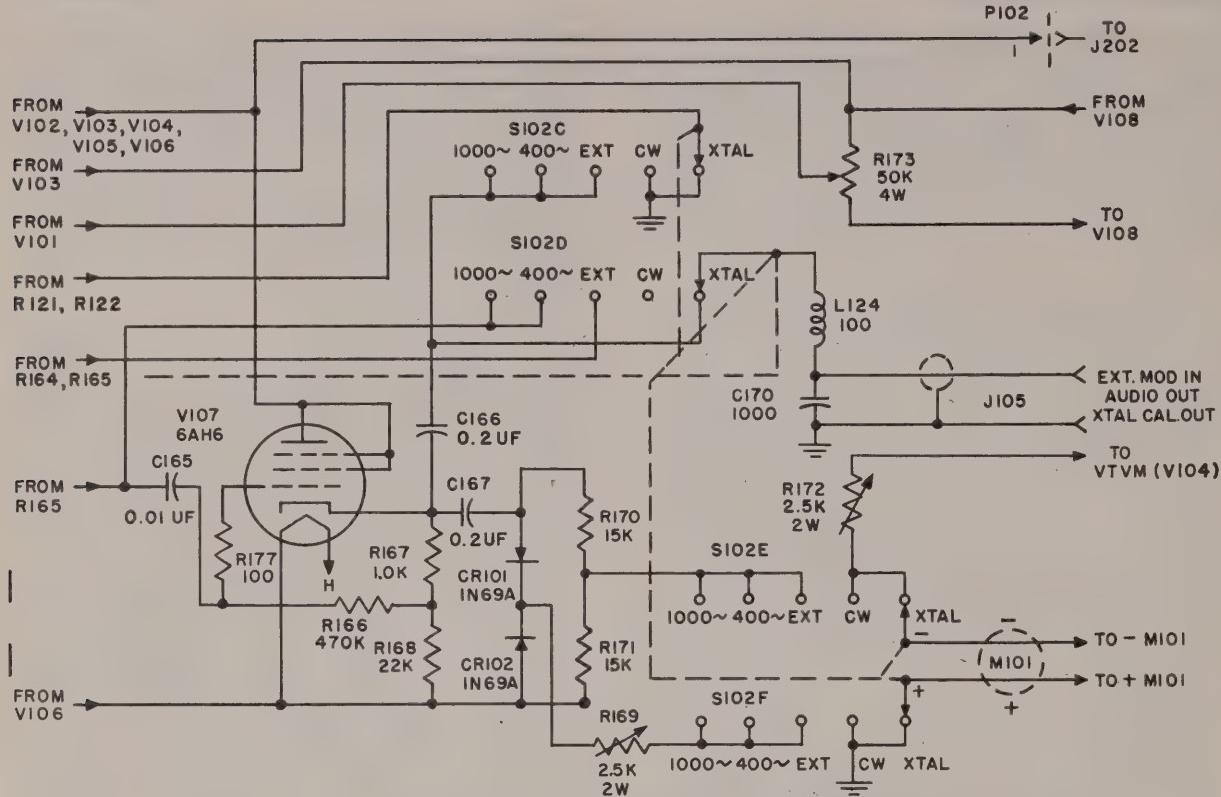

Figure 2-6. Simplified Schematic Diagram of the Modulation Cathode Follower and Crystal Rectifier
**c. CATHODE FOLLOWER STAGE (See figure 2-6).**
#### d. MODULATION METERING (See figure 2-6).
##### b. SWITCHING (See figure 2-6).